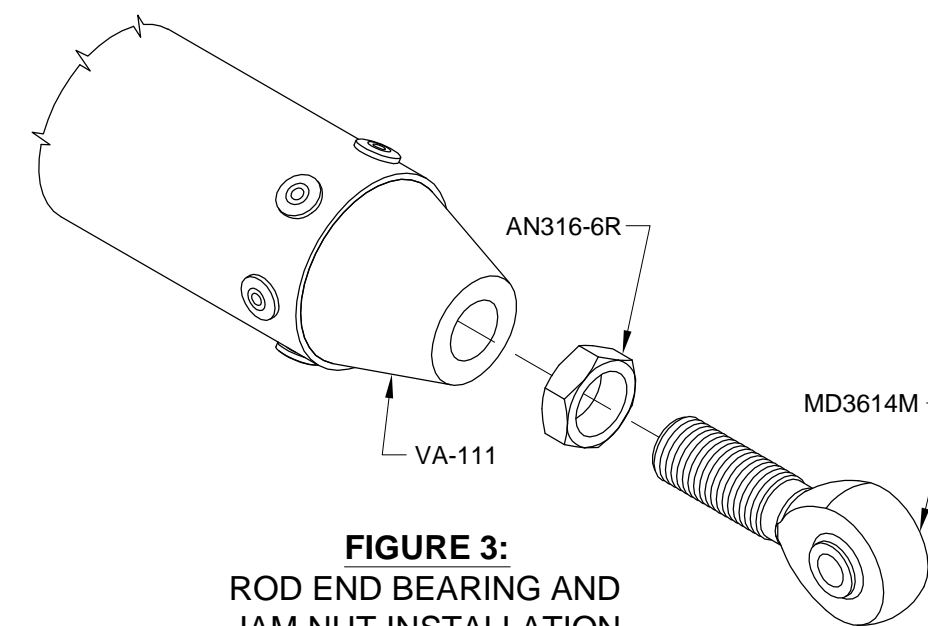

FIGURE 3:
Step 4: Install rod end bearings and jam nuts into the VA-111 Threaded Rod Ends as shown in Figure 3.